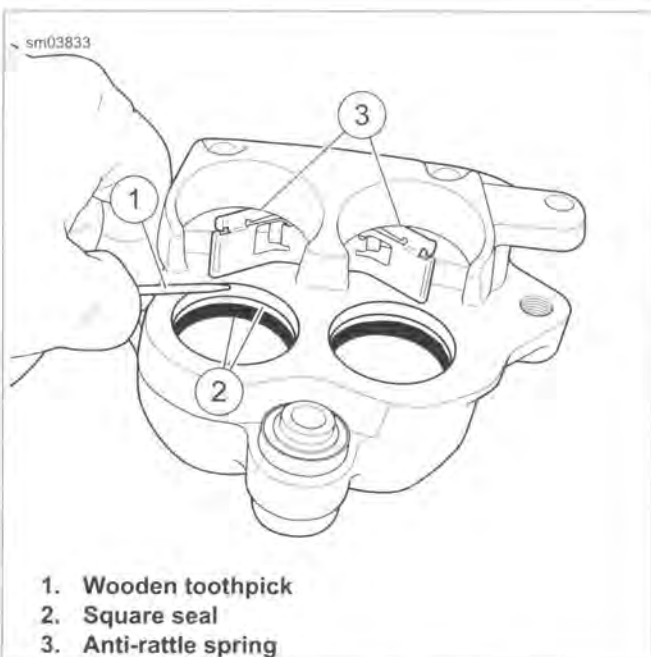

Figure 2-68. Seals and Spring
5. See Figure 2-68. Using a wooden toothpick (1), remove two square seals (2) from each caliper bore. Discard all removed parts.
6. Pull anti-rattle spring (3) straight out to remove.
2. See Figure 2-68. Install two **new** square seals (2) into each piston bore. Use a wooden toothpick (1) to aid installation if needed.
3. Install anti-rattle spring (3). Verify that it is positioned correctly.